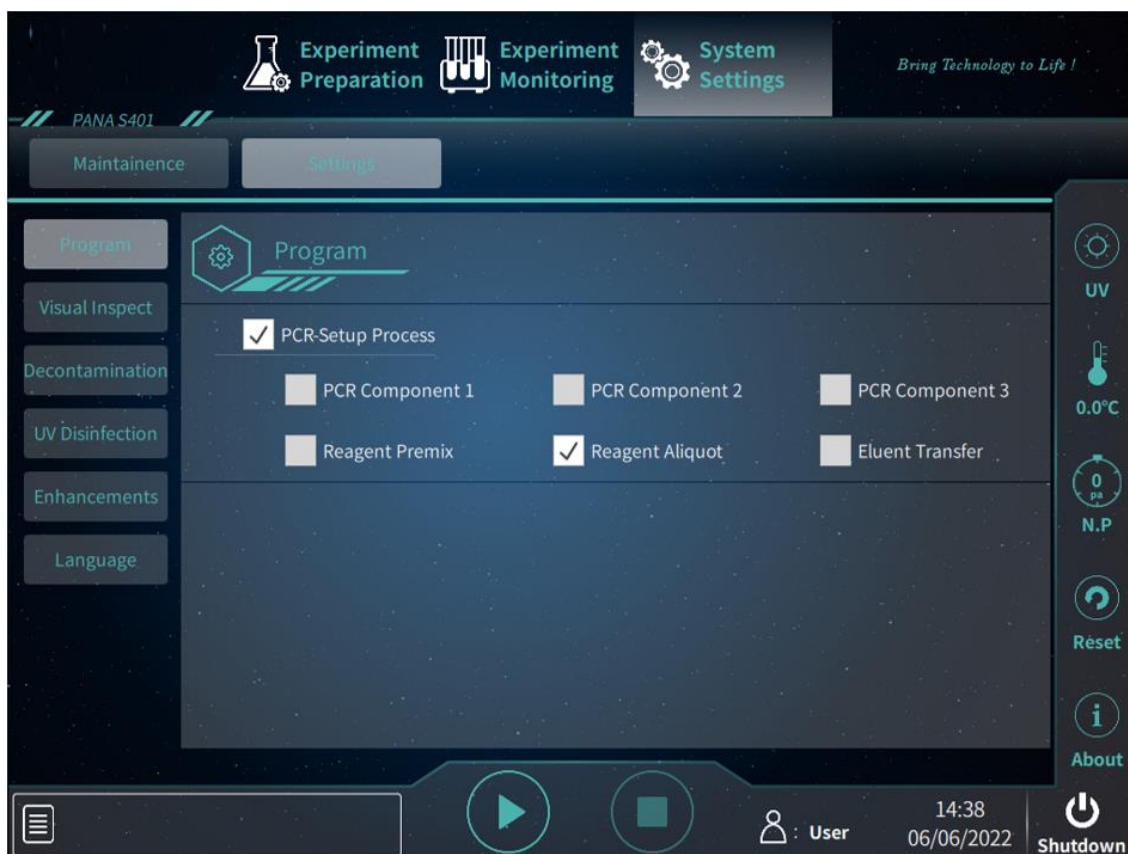

Figure 5-22. System Settings Interface – Settings Tab – Program
The **Settings** tab consists of *< Program >*, *< Visual Inspect >*, *< Decontamination >*, *< UV Disinfection >*, *< Enhancements >* and *< Language >* six function keys, as shown in figure 5-22.
- ▶ **< Program >**: User could click this function key to set the experiment program steps. User could check the corresponding check box to select the step(s) included in the experiment program, as shown in figure 5-22.